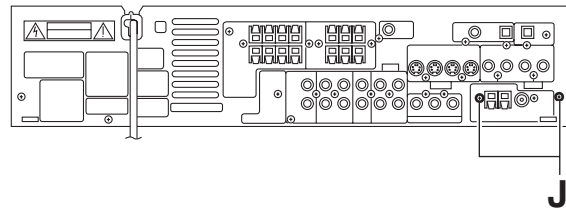

Fig.8
### 3.1.6 Removing the tuner (See Figs.8 and 9)
- (1) From the back side of the main body, remove the two screws **J** attaching the tuner. (See Fig.8.)